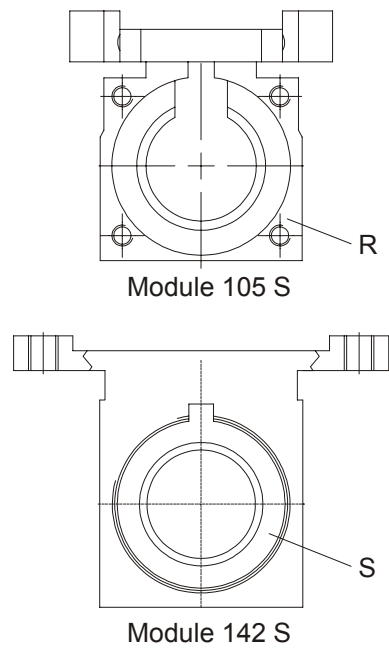

Figure 33: Driver Module 105S und Module 142S
- Separate the driver from the spindle nut. To do this, The pressure plate (see *Figure 33, R, module 105 S*) or the threaded ring (see *Figure 33, S, module 142 S*) must be removed from the driver.